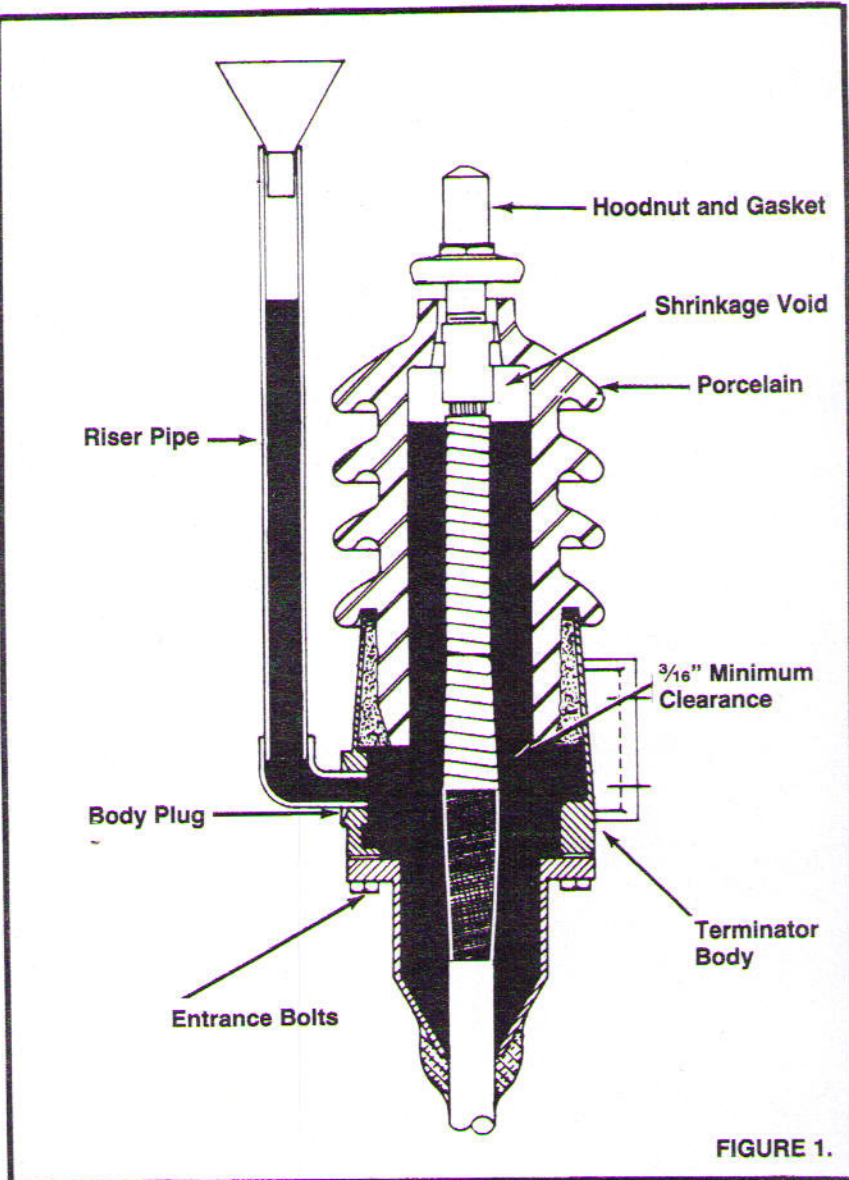

FIGURE 1.
4. Use a large diameter riser pipe (see figure 1). The pipe should extend approximately one foot above the high point of the porcelain to provide a static pressure head. The riser pipe should be the same size as the pipe boss or larger.